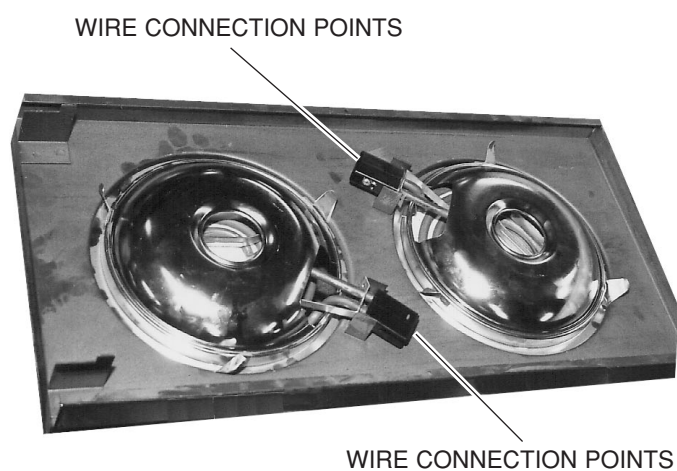

Fig. 24
3. Note and disconnect all element connector and grounding wire(s). (Fig. 24)